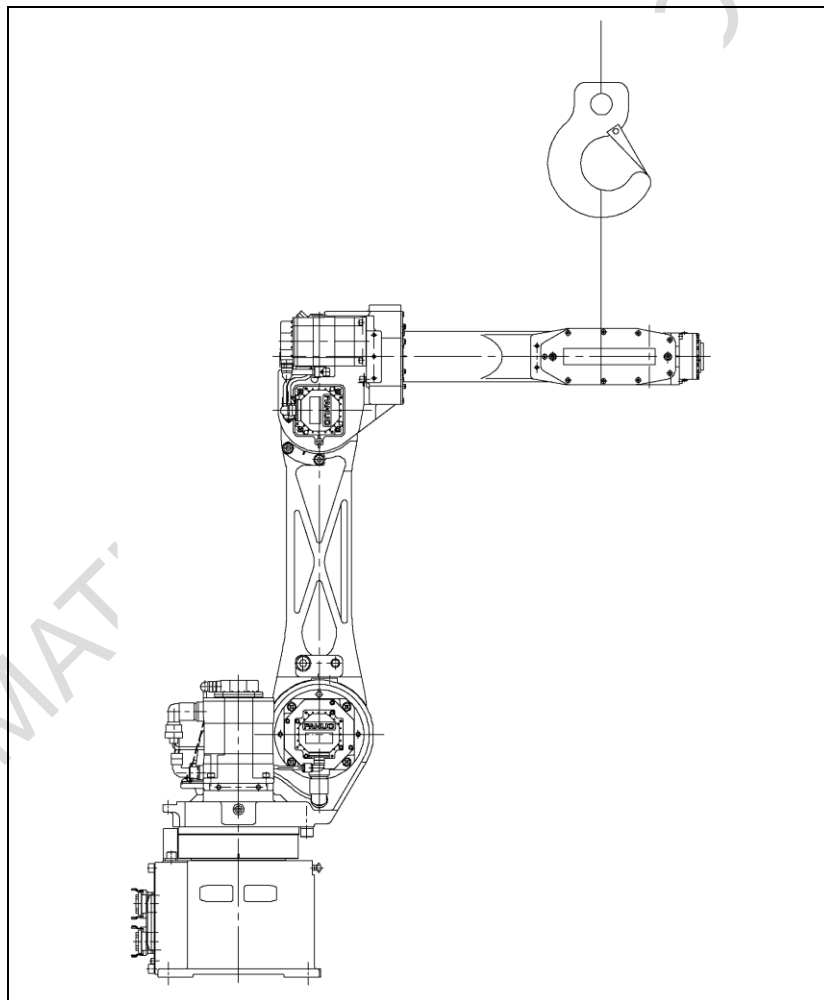

Fig. 5.5 (a) Releasing the brakes of the J2-axis motor
- 1 When releasing the brakes of the J2-axis or J3-axis motor (M2 or M3), support the robot with a crane as shown in Fig. 5.5 (a).